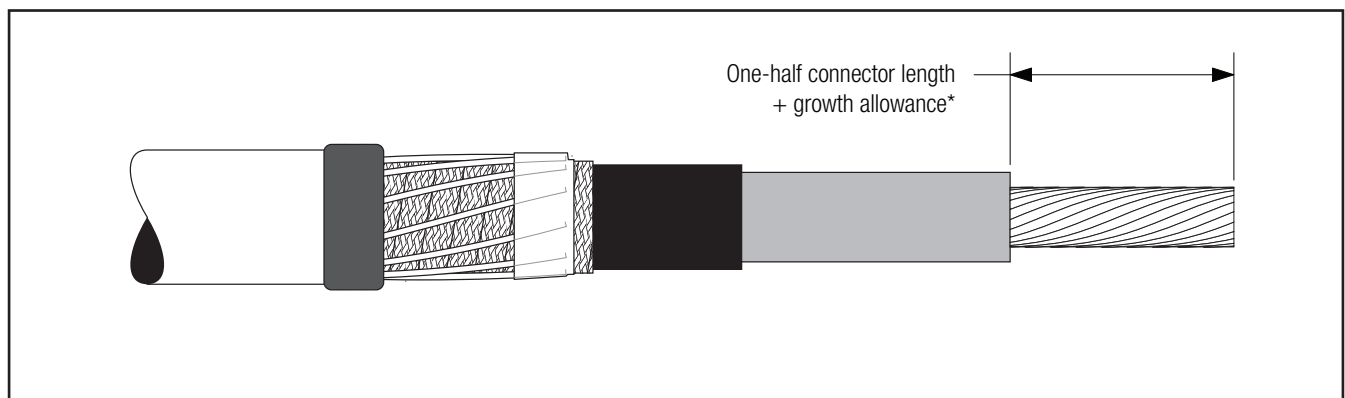

Figure 9
- 3.3 If using a crimp type connector,** remove cable insulation for 1/2 connector length plus an allowance* for increases in connector length due to crimping. Insulation removal length shall not exceed 4 1/8" (105 mm) from conductor end. **Do not install connector now** (*Figure 9*).